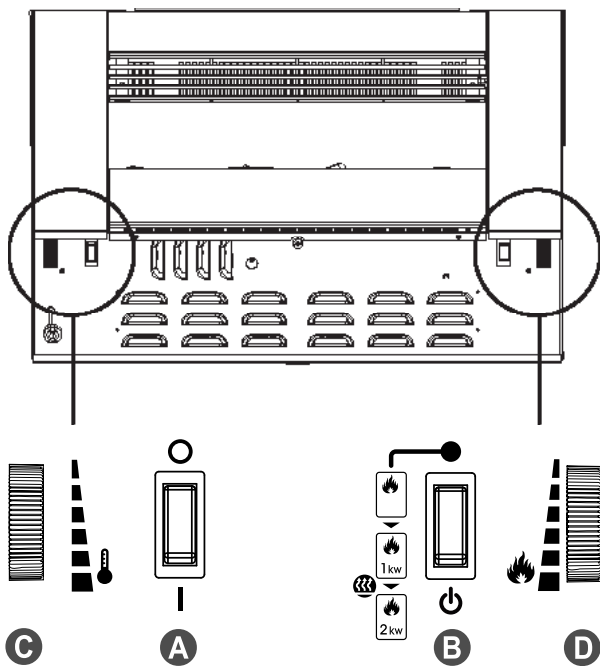

Fig.2
The Opti-myst Manual controls are located on the base of the appliance. (See Fig.2 for Manual Control lay out)
4. The flame control knob 'D' Fig.2 may be turned up or down to give a more realistic effect.